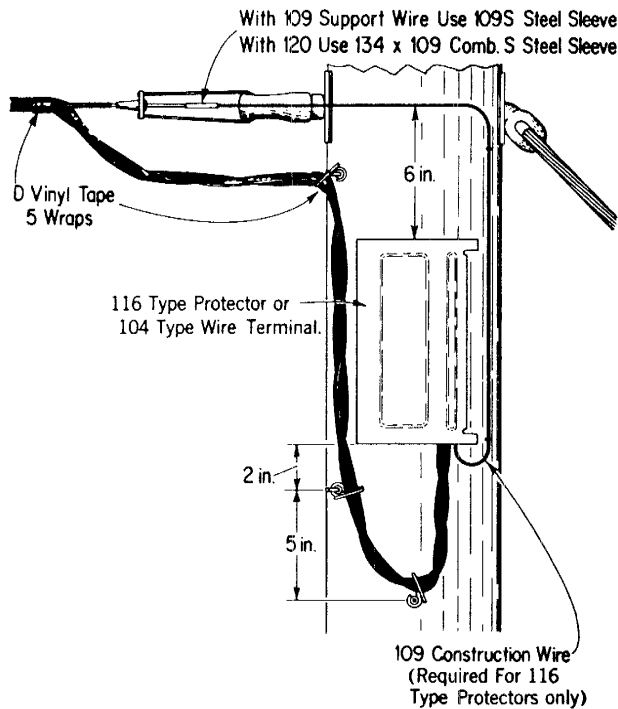

Fig. 12 — At Wire Deadend Pole
**4.01** At wire deadend poles, 6-pair wire terminals or protectors can be located as shown in Fig. 12.